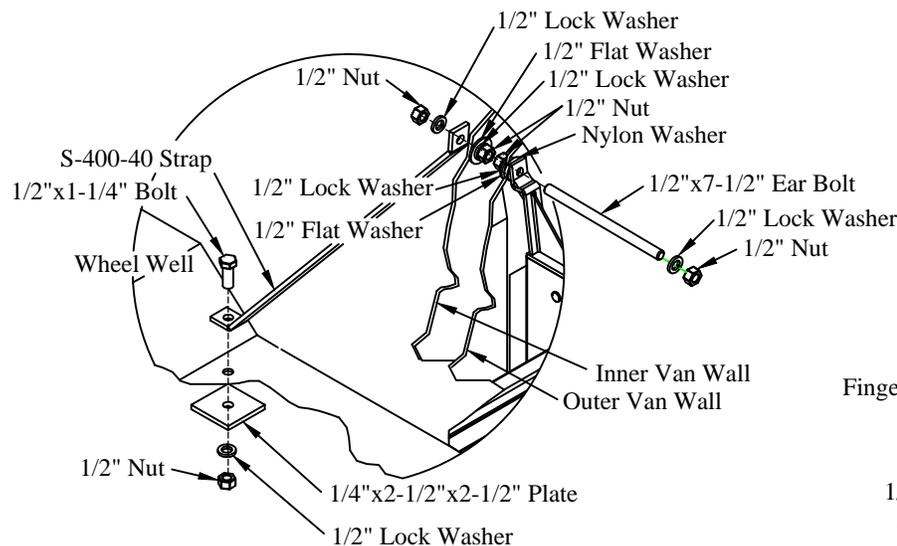

Figure 10: Mounting strap hardware assembled.
17. Drill a 1/2" hole in the van floor for each mounting strap using the mounting strap hole as a guide (Figure 10).
18. Attach the mounting strap to the van floor (Figure 10).